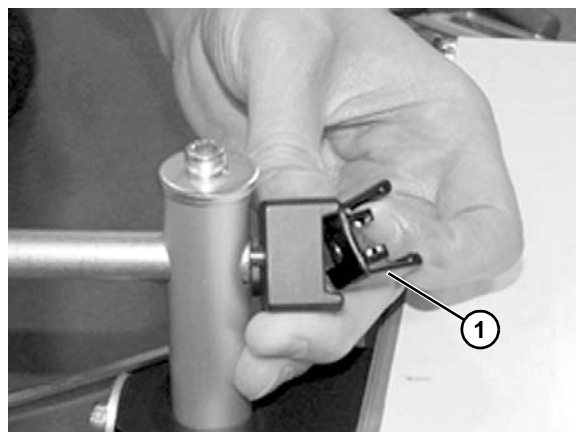

**Figure 23**
2. Tighten screws (**Figure 23, item 1**) making sure t-nut (**Figure 23, item 2**) rotates and engages inside of the t-slot.